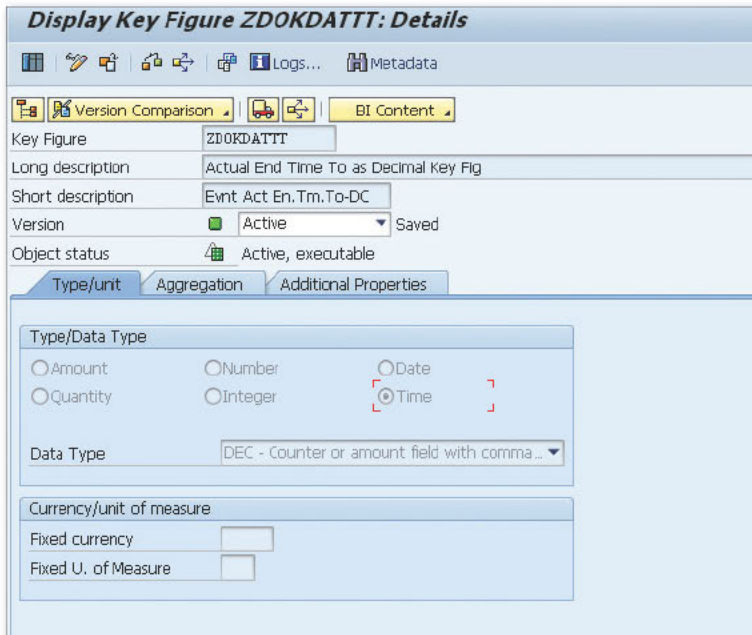

Figure 1 New Date Field as Key Figure
1. Using Transaction RSA1, create two new key figures, "Event Actual Start Date From as Decimal Key Fig" and "Event Actual End Date To as Decimal Key Fig" with TYPE/DATA TYPE as DATE and DATA TYPE as DEC - COUNTER OR AMOUNT FIELD WITH COMMA AND SIGN (see Figure 1).